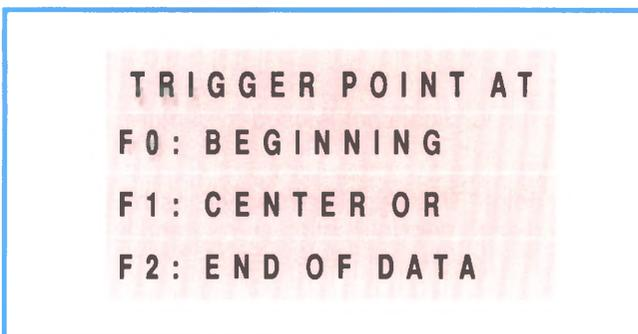

Figure 6-34, Trigger Point Options
- **F9: Trigger Point** — This option allows you to designate when the trigger point occurs. After selecting this option, three choices are available (figure 6-34):